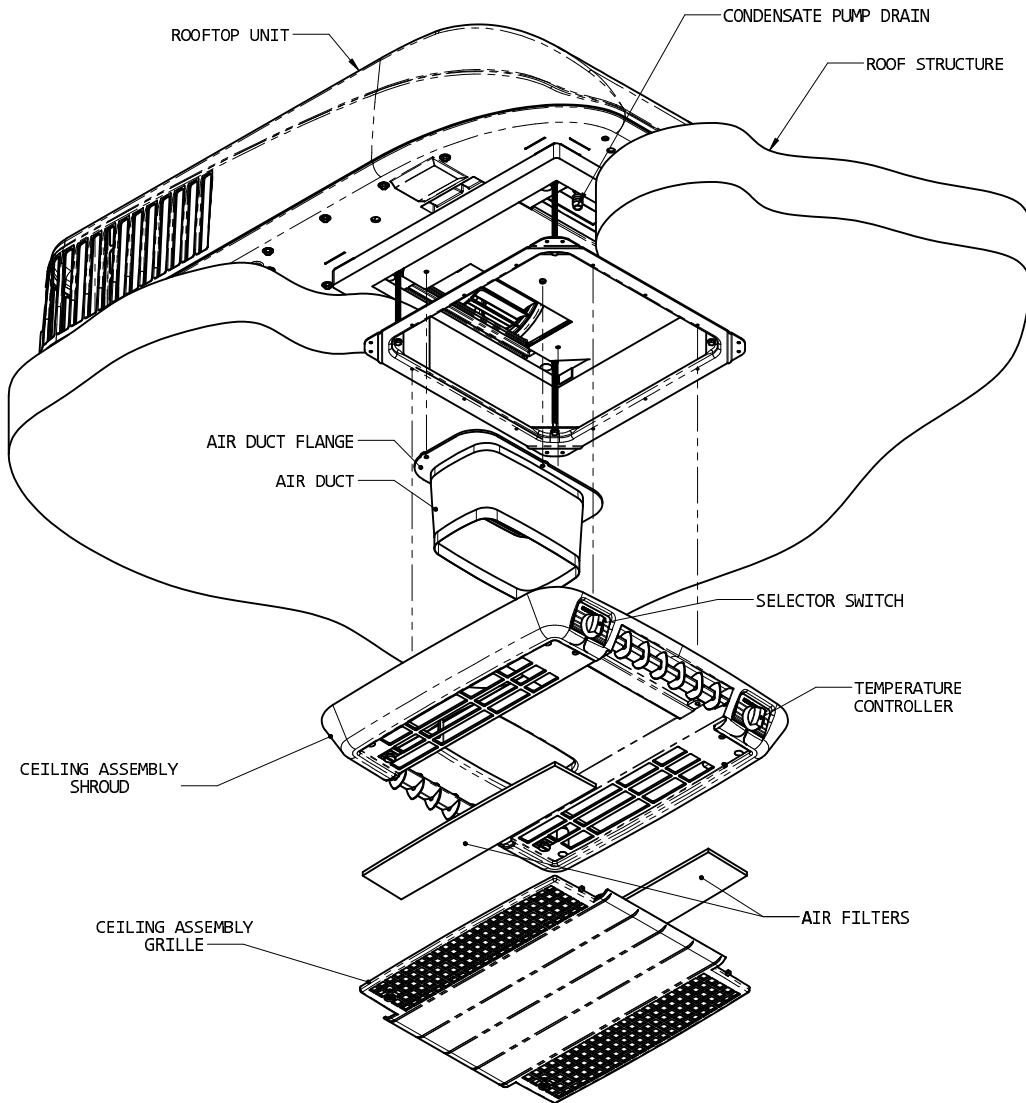

FIGURE 9
- D. Fasten the duct collar to the basepan of the heat pump with three (3) screws (See Figure 9).
Raise the ceiling assembly and secure to the mounting frame with 4 provided shoulder screw/spring assemblies. The front two screws should pass through the clearance holes in the metal control box shield (See Figure 9).
- E. Insure that a condensate hose is installed if the optional condensate pump is provided. The attachment point is in the return air (See Figure 9). A 1/2" barbed fitting is provided, however, removal of the hose "pigtail" will allow use of a 1/4" I.D. hose.